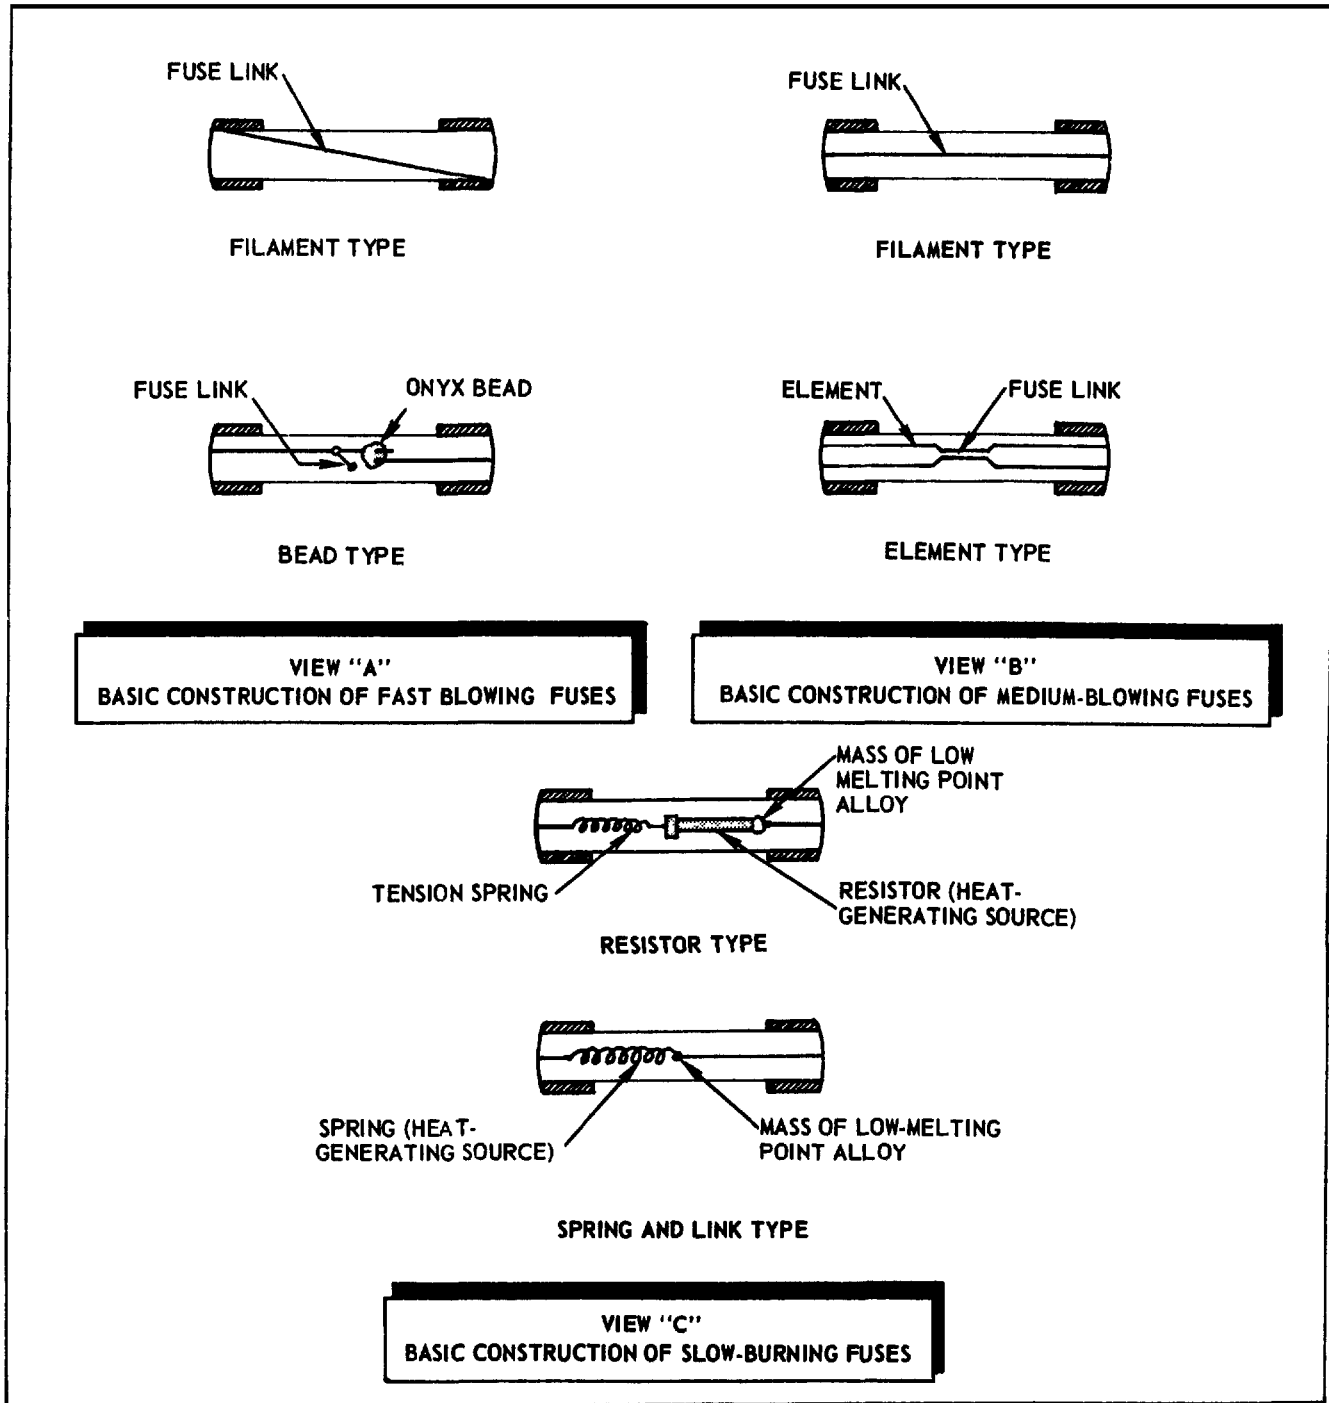

Figure 14. Basic Construction, Views A, B, and C
71. NORMAL. This type of fuse is often referred to as a “normal opening” fuse and may or may not be current limiting. Normal fuses contain single elements and possess a time-current characteristic curve that is essentially a smooth curve with no discontinuities. Figure 14 shows a typical aircraft fuse.
Basic Construction (see Figure 14, Views A, B, and C).